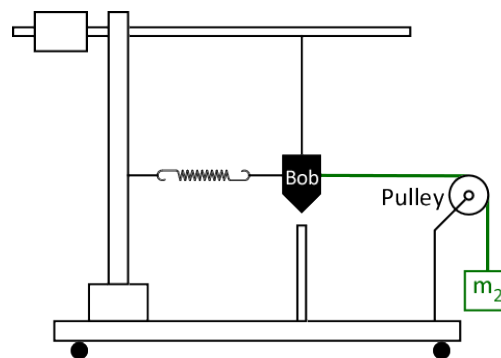

Figure 2: Static Bob
10. Add mass, m_2 until the spring is stretched so that Bob is lined up *above* the pointer (*Figure 2*). *Don't change the position of the pointer!*